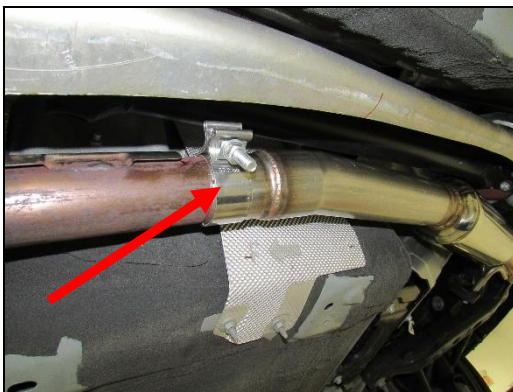

Figure 7
- Remove the OEM donut gasket off the OEM resonator pipe (replace if needed) and slide on to the blackheart resonator pipe. Go ahead and slide the band clamp that was supplied with the kit on the other end of the blackheart resonator pipe (Figure 7).